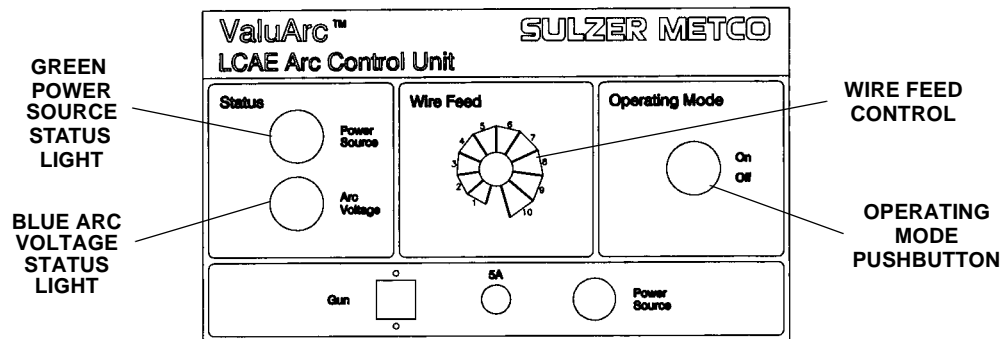

FIGURE 5.3 LCAE ARC CONTROL UNIT – FRONT PANEL
Air Setup (Figures 5.3 and 5.4)
Spraying Setup (Figures 5.3 and 5.5)
SPRAYING (100/100E and 200/200E) (Figures 5.3 and 5.5)
5. Set power supply volts/amps switch to AMPS and adjust to parameters given in Section 11 by using the wire feed control on the control unit (see Figure 5.3).
SHUTDOWN (100/100E and 200/200E) (Figures 5.3 and 5.5)